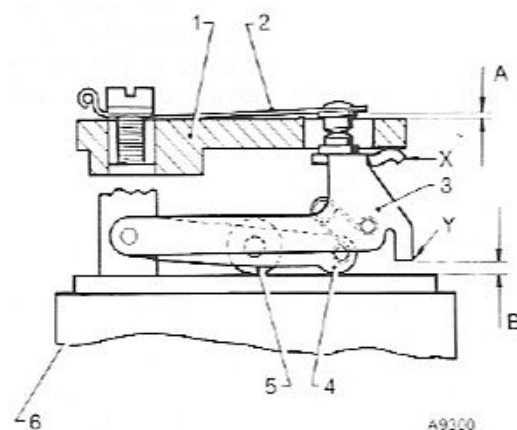

Fig 13. The rocker finger settings on modified rocker assemblies.
- 28 Check the lift of the contact blade tip above the top of the pedestal (A) (Fig. 13) with a feeler gauge, bending the stop finger 'X' beneath the pedestal, if necessary, to obtain a lift of  $0.9 \text{ mm} \pm 0.13 \text{ mm}$  ( $0.035 \pm 0.005 \text{ in}$ ).
- 29 Check the gap between rocker finger and coil housing (B) (Fig. 13) with a feeler gauge, bending the stop-finger 'Y', if necessary, to obtain a gap of  $2.3 \text{ mm} \pm 0.13 \text{ mm}$  ( $0.090 \pm 0.005 \text{ in}$ ).